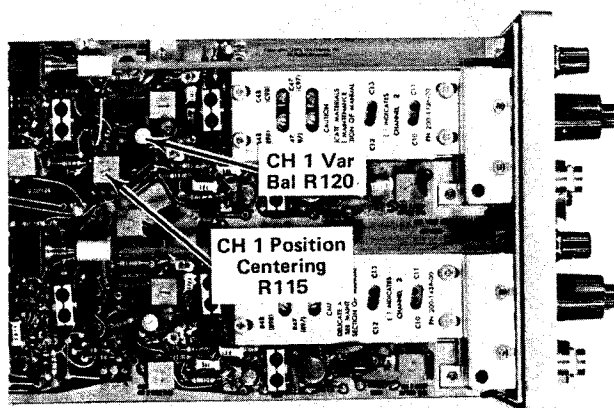

Fig. 5-11. Location of CH 1 Variable Balance and Position Centering adjustment.
- d. ADJUST—CH 1 Variable Balance adjustment, R120, (see Fig. 5-11) for minimum trace shift when rotating the CH 1 VAR control through its range.
- d. ADJUST—CH 1 Position Centering adjustment, R115, (see Fig. 5-11) so that the top of the CRT display can be positioned down to 1/2-division above the center horizontal graticule line, and the bottom of the display can be positioned up to 1/2-division below the center horizontal graticule line.